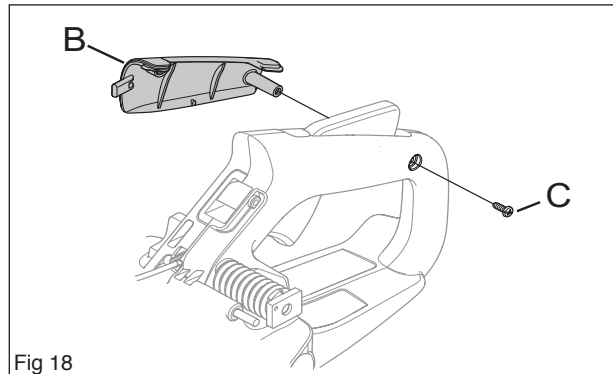

Fig 18
Dismantle the handle insert (B) by loosening the screw C on the handle. (see figure 18)